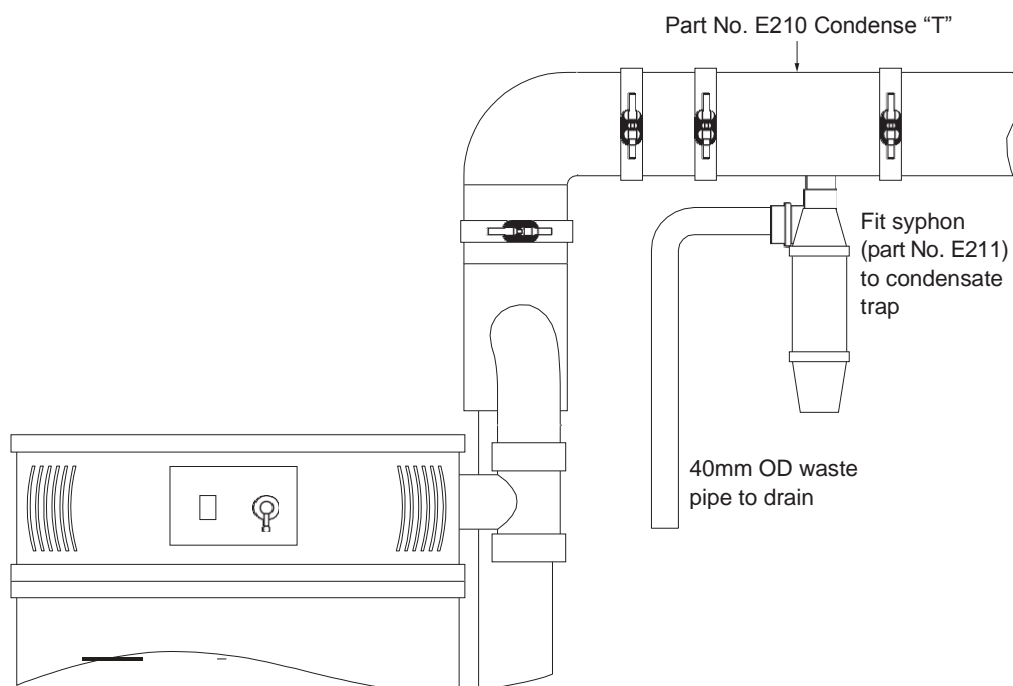

Fig. 12
- i) Condensate disposal: Connect syphon (part no. E211) to the 32mm slip joint condensate trap connector and install 40mm O.D. waste pipe suitable drain (see Fig. 12).